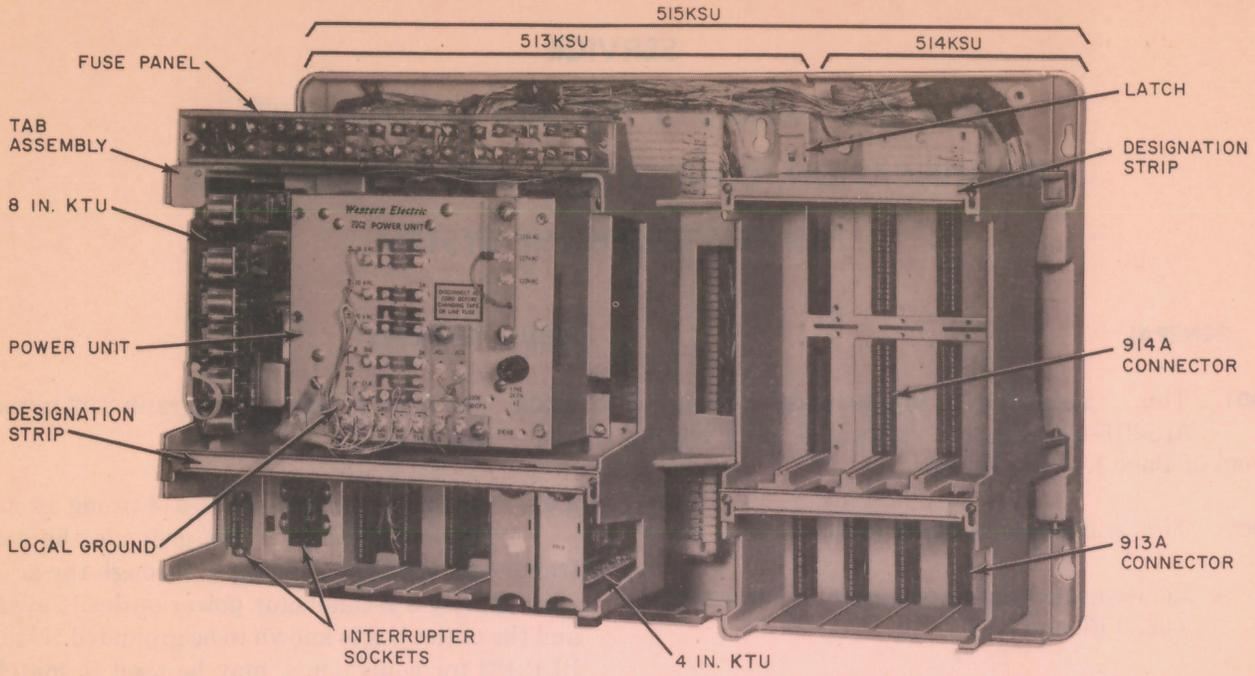

Fig. 1—515A3 Key Service Unit, Cover Removed
- Make changes on Fig. 1 to show local ground.
- (1) Prepare a separate ground wire by attaching a lug (supplied) to a No. 12 gauge wire of sufficient length to reach from the KSU to the single-point ground terminal and coupled bonding conductor. (This should be the same as the protector and electrical ground.)
2.005 On Page 11, Fig. 1 is obsolete. A new Fig. 1 is shown in this addendum.